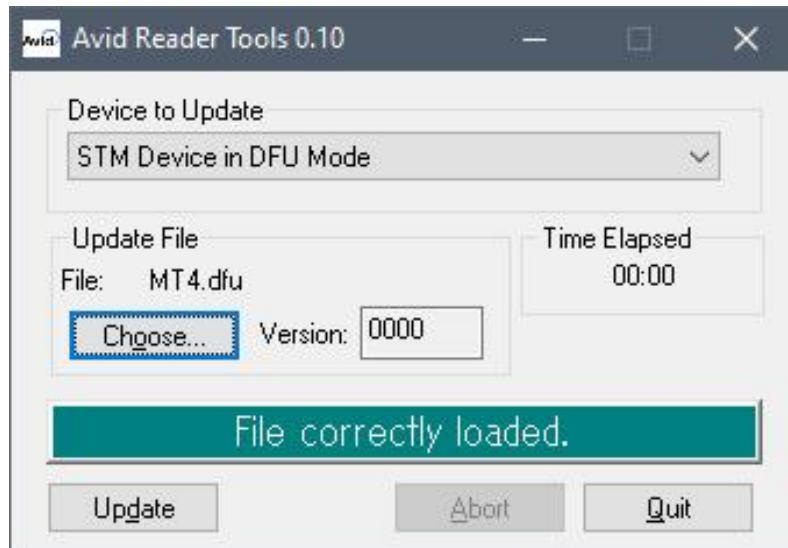

Figure 24: *DFU file selected loaded successfully.*
4. The Reader Tools will display the "File correctly loaded." message shown in Figure 24 when a valid update file is selected.